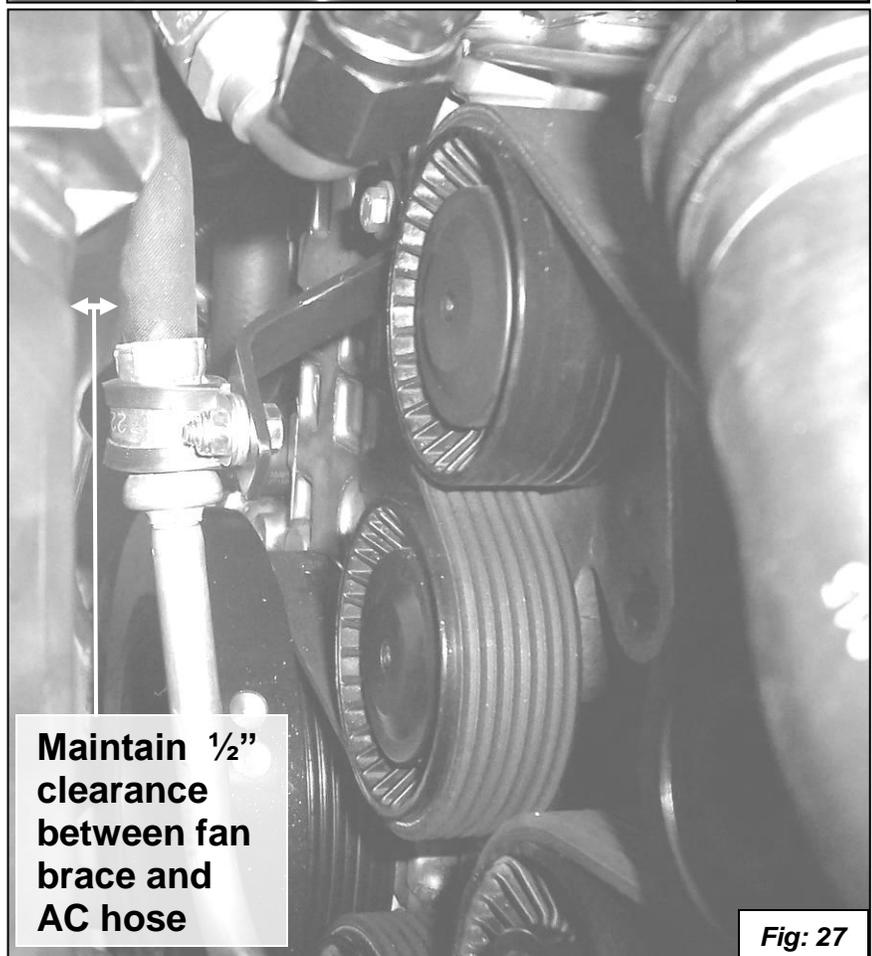

Fig: 27
26. Use the photo below to mount the new **AC Line Support Bracket** with the original bolt. Leave the mounting bolt loose enough that the Bracket can be easily rotated if necessary. The free end of this bracket should be just slightly higher than the mounted end or slightly up from level. Use the enclosed **#22 Loop Clamp, M6 x 16 bolt, M6 wave washer** and **M6 nylok nut** to attach the AC Line to the new Support Bracket. The goal is to lower the AC line about 2-1/2" at the swaged collar below the oil thermostat housing. You may want to leave the two bolts slightly loose until the Oil Lines are installed then tighten them when you are sure there is sufficient clearance, as they will still be easy to reach. Be careful to maintain about 1/2" or more clearance between the AC line and the rear of the auxiliary fan assembly at the closest point. You do not want the AC line to hit the fan assembly during hard braking. See **figure 27**.